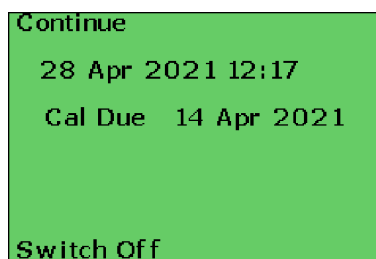

Figure 12: Warm-up - Calibration Overdue
4. Calibration / Service Due enabled - if overdue, user acknowledge is required. As shown in Figure 12: Warm-up - Calibration Overdue.
If calibration or service is within the “extended period”, the user must still acknowledge that calibration has expired as shown in Figure 12: Warm-up - Calibration Overdue.